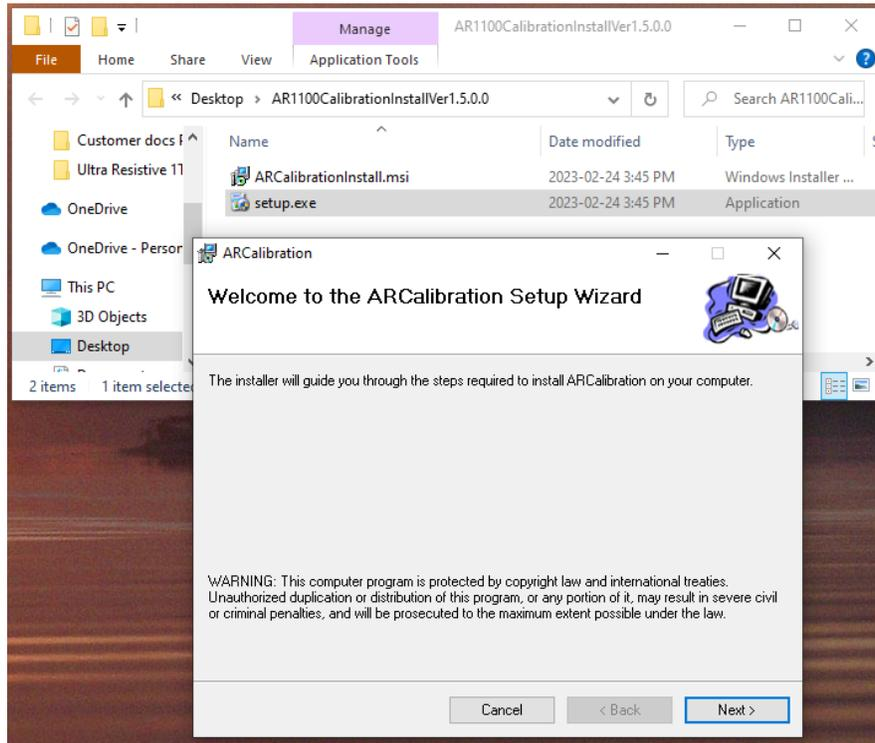

Figure 10: Opening page of ARCalibration Setup Wizard
- If .NET 2.0 is enabled, you will see the splash page shown in Figure 10.